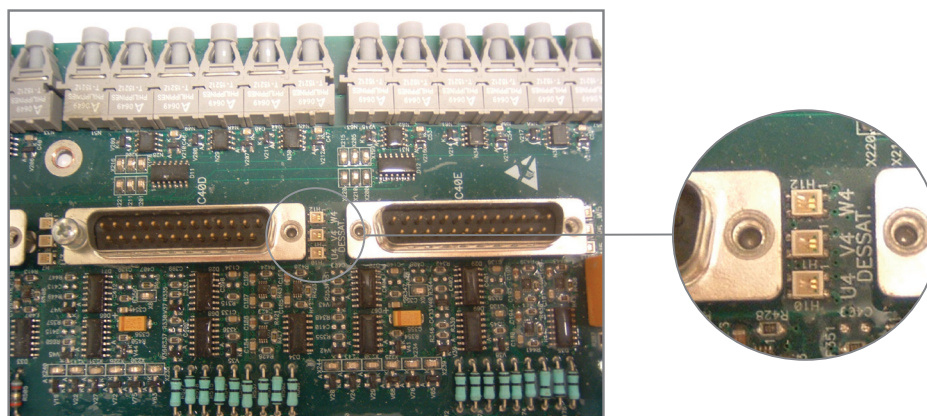

Figure 0.1 - LEDs that indicates the fault
(2) In case of F030 (Arm U Fault), F034 (Arm V Fault) and F038 (Arm W Fault) faults, there is an indication at the IPS1 board that signalizes which of the power units is presenting the fault. The indication is done through LEDs that remain on when the fault occurs. When a reset is performed, the LED that indicates the fault goes off (refer to the figure 0.1).